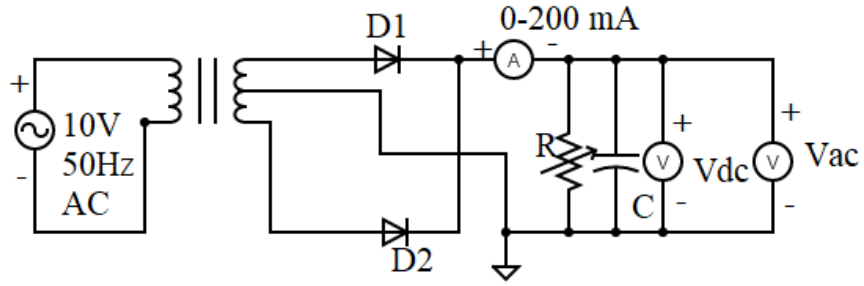

Figure 6.2: Circuit Diagram for Full Wave Rectifier with Filter
1. Connect the circuit as shown in Figure 6.2.